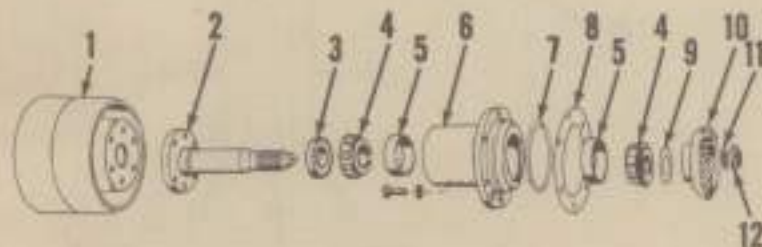

Fig. 140 — Exploded view of the belt pulley assembly. The pulley drive gear and shifter collar are shown in Fig. 142.
**218.** To adjust the backlash of the belt pulley drive gears (10—Fig. 140 and 8—Fig. 142) first remove the pulley as outlined in paragraph 219. Remove all shims (9—Fig. 140), then reinstall belt pulley with the threaded hole in housing (6) toward bottom. Install a cap screw in the front bolt hole and another cap screw in the rear hole of the housing and tighten these cap screws finger tight while holding belt pulley unit in place. Install a cap screw in the threaded hole at bottom of housing and tighten this cap screw until the belt pulley housing flange is evenly spaced from the torque housing. Insert as many shims in the space between the pulley housing flange and torque housing as possible; then, remove belt pulley unit and reinstall unit with this amount of shims plus an additional 0.030 shim thickness to give belt pulley drive gears proper
**219. REMOVE AND REINSTALL.** To remove the pulley assembly, drain hydraulic oil down below the belt pulley opening; then, remove the retaining cap screws and withdraw the belt pulley unit from the torque housing. Make certain that shims (9—Fig. 140) are not lost or damaged.
**220. OVERHAUL.** Refer to Fig. 140 for an exploded view of the unit. The shaft (2) may be bumped or pressed out of bearings and drive gear after carefully unstaking and removing the nut (12). Further disas-
sembly procedure is evident from inspection of unit and reference to Fig. 140.